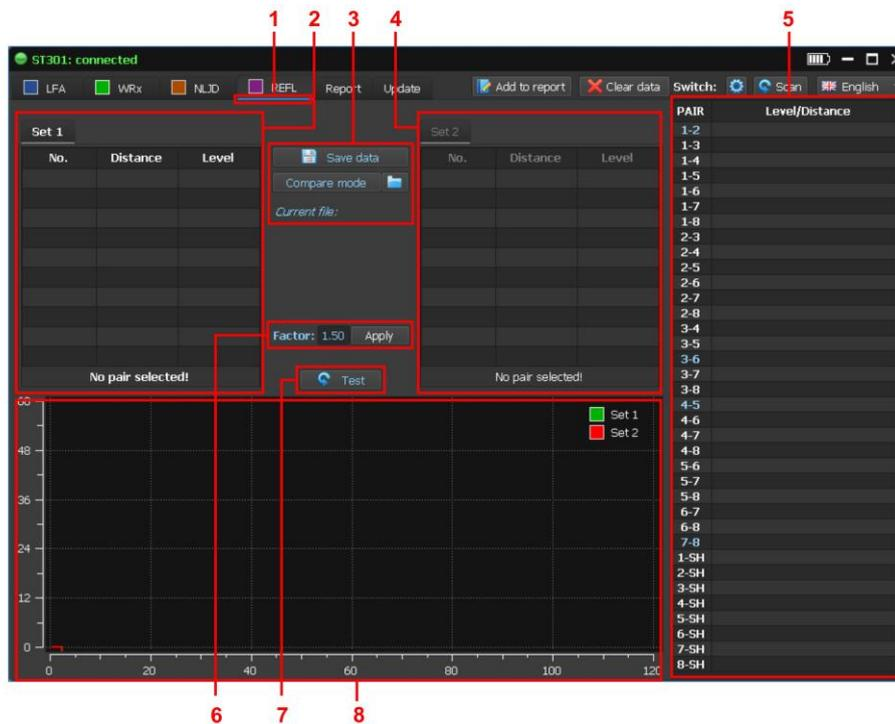

Fig.80
To turn on REF click  PC screen is shown in Fig.80.
In Fig.80:
In this mode, each combination of wires is tested. To turning on (off) the mode, click  Test results are displayed in the Switch table (Fig.80, item 5 or Fig.82).
To save the data, click  (Fig. 80, item 3). A window for entering comments appears on the screen.